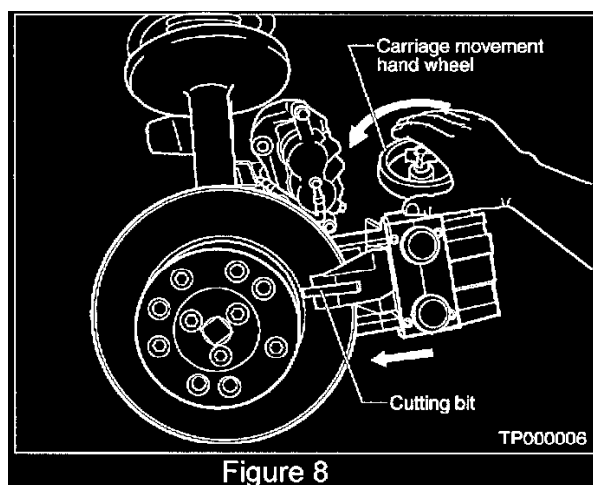

Figure 8
12. Advance the carriage with the hand wheel until the outboard cutting bit reaches the inside edge of the rotor surface (see Figure 8). Then, advance the carriage movement hand wheel an additional one-third turn.